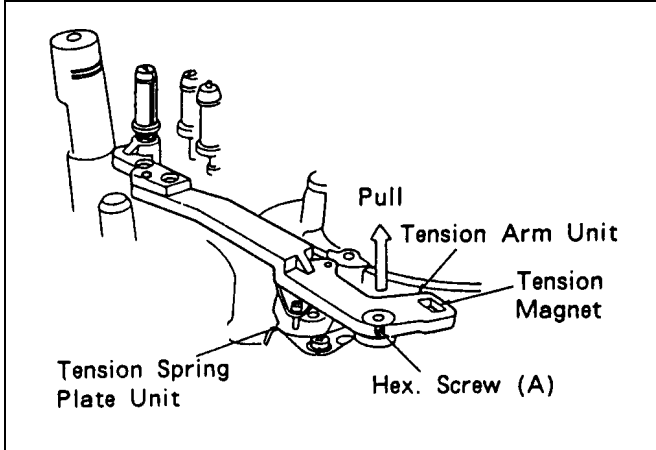

Figure 7-12-1 Tension Arm Unit
3. Loosen hex. screw (A) and pull off the Tension Arm Unit as shown in figure 7-12-1.